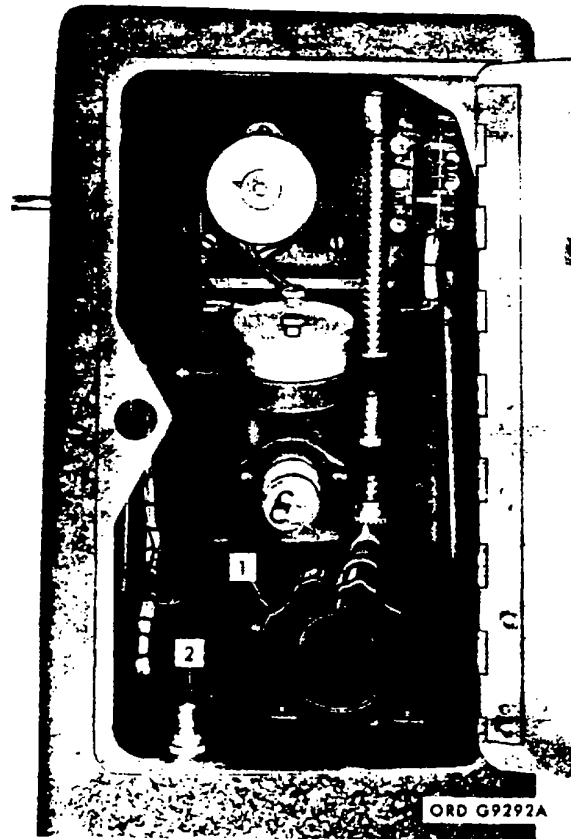

Figure 7. DX-44 projection unit-upper rear door - controls and indicators.
a. The controls located behind the upper-rear door of the DX-44 projection unit are explained in table 3 and illustrated in figure 7.
Table 3. Projection Unit, DX-44, Upper-Rear Door--Controls and Indicators (fig. 7)